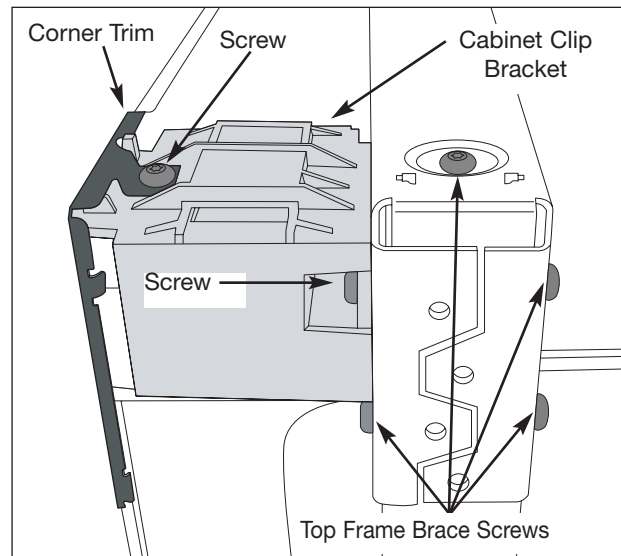

Figure 5-27. Corner Trim and Cabinet Clip Removal
The corner trim and cabinet clip bracket must be removed prior to removing the top frame brace and the leg and hinge assembly. (See Figure 5-27)
4. Using a #20 Torx bit, extract the four screws from each end of the top frame brace securing the top frame brace to the leg and hinge assembly. (See Figure 5-27)